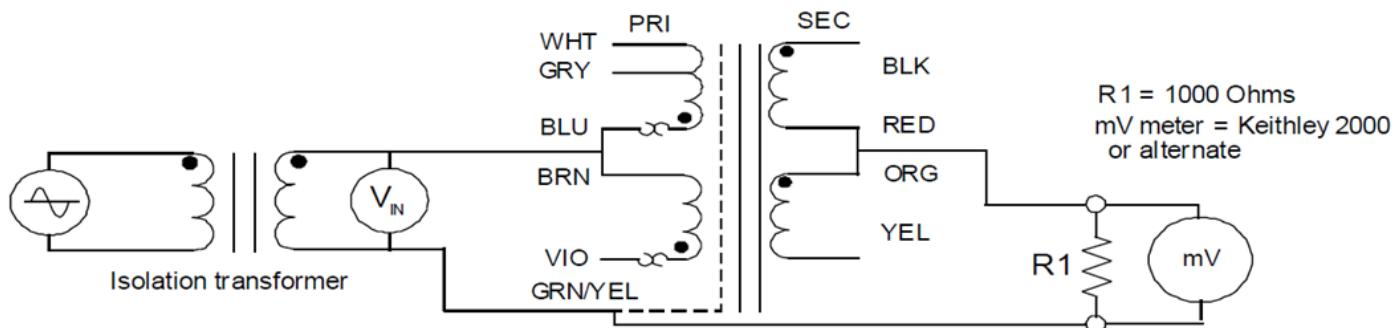
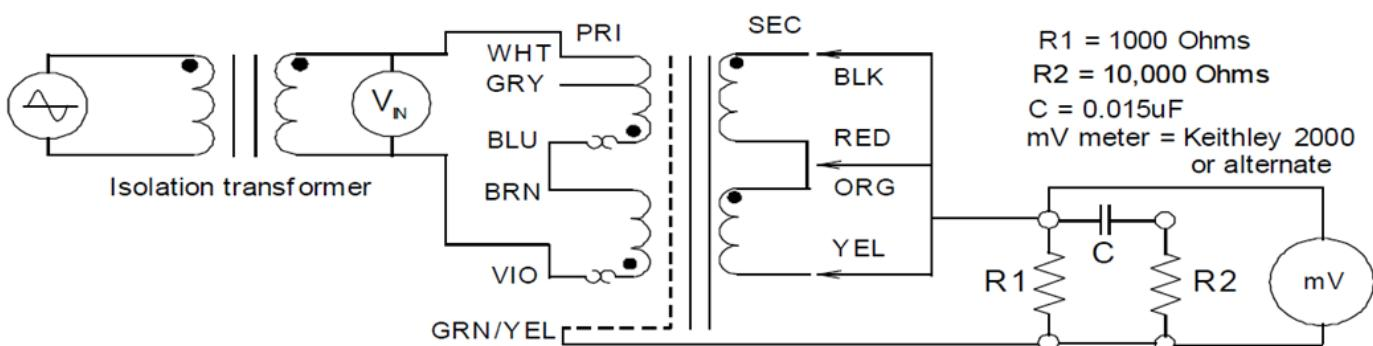

Figure 1
Figure 2
8. Earth Leakage:  $\leq 10\mu\text{A}$  (See Fig. 1), Patient Leakage:  $\leq 25\mu\text{A}$  (see Fig. 2)